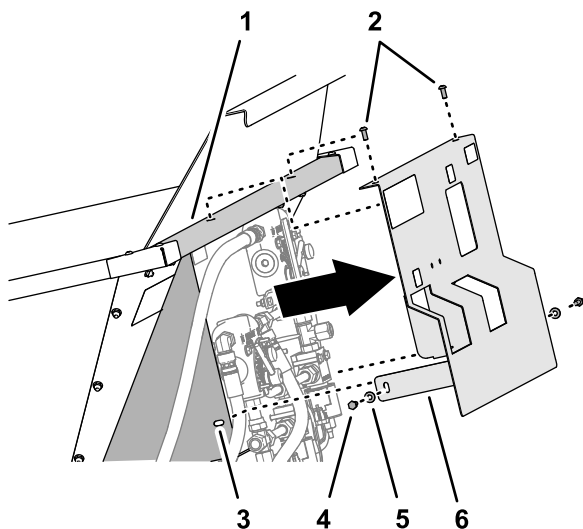

Figure 17
1. Remove the 2 capscrews and 2 washers that secure the hydraulic guard to the valve mount of the top dresser (Figure 17).
2. Remove the 2 button-head screws that secure the hydraulic guard to the front wall of the hopper, and remove the guard (Figure 17).
- Remove the 2 capscrews and 2 washers that secure the hydraulic guard to the valve mount of the top dresser (Figure 17).
- Remove the 2 button-head screws that secure the hydraulic guard to the front wall of the hopper, and remove the guard (Figure 17).